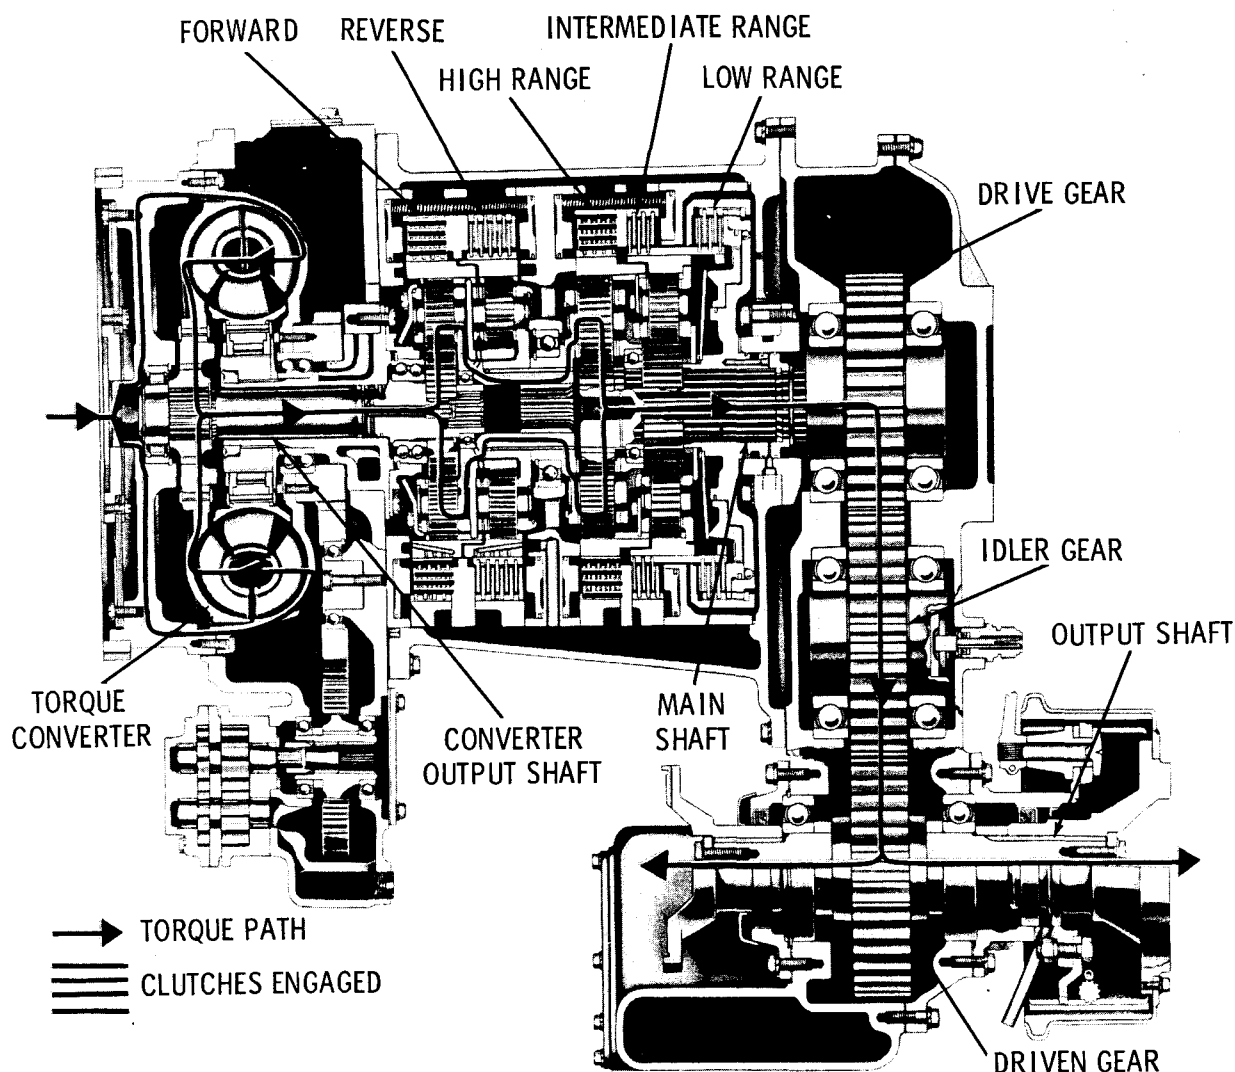

Fig. 2-4. Forward, high range—torque path
e. Forward, High Range (fig. 2-4)
(1) The forward and high-range clutches are engaged. Torque is transmitted to the high-range planetary carrier as explained in c(1), above, at a speed reduction of 3.04 to 1.
(2) The high-range clutch holds the high-range planetary ring gear stationary. The high-range planetary carrier, rotating within the stationary ring gear, overdrives the high-